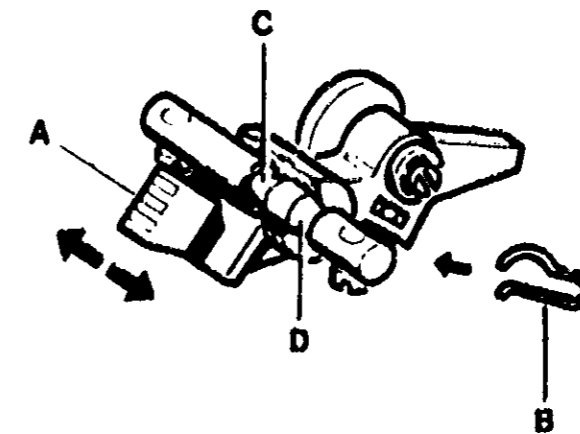

FIGURE 51
- Check to see that feed lifting lever (A) holds firmly in position whenever it is engaged or disengaged (Figure 51)
- Check to see that spring (B) is being correctly installed into notch (C) and snaps into recess (D) whenever feed unit is disengaged
- Replace spring (B) if damaged or weak